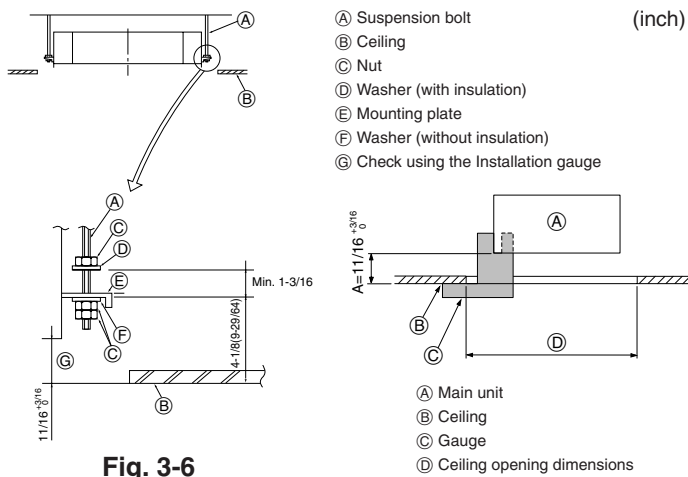

Fig. 3-6
- (1) Wooden structures
- (2) Ferro-concrete structures
3.6. Unit suspension procedures (Fig. 3-6)